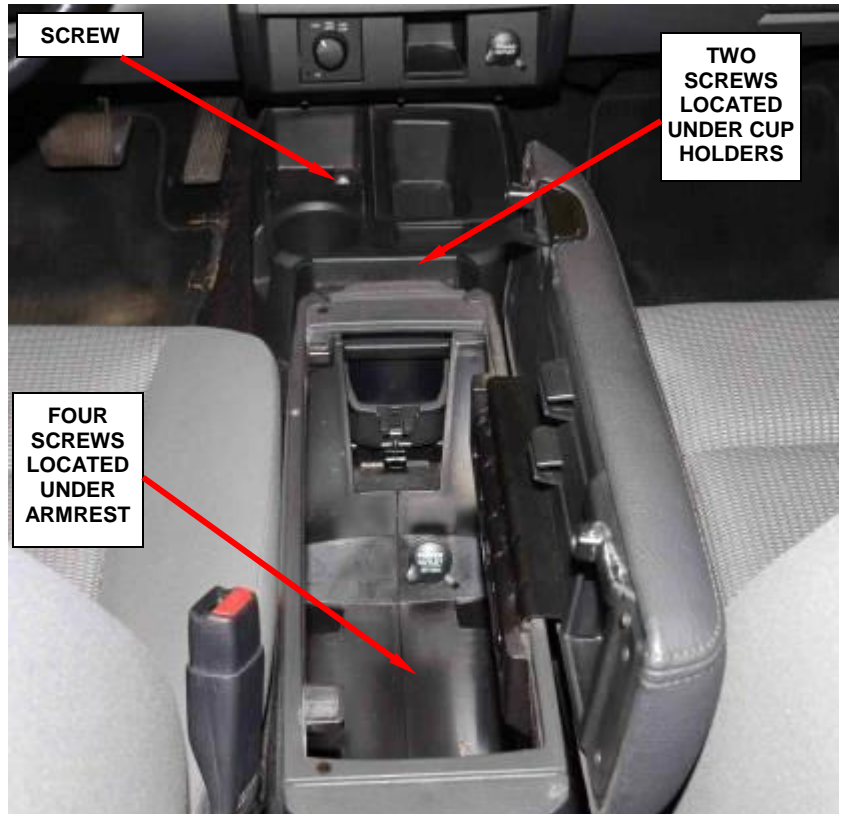

Figure 84 - Floor Console (ATX Shown)
- d. Remove the screws that secure the floor console to the floor panel (Figure 84).